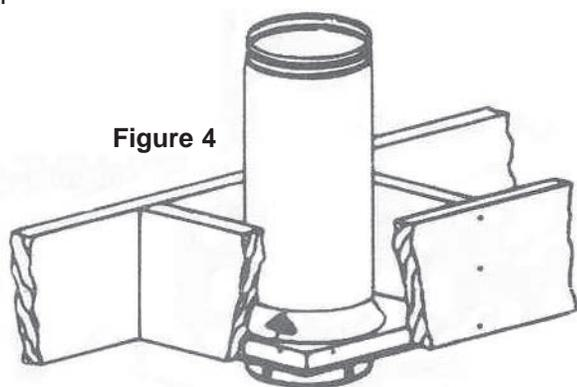

Figure 4
- Place a supporting collar in the groove at the bottom end of any standard pipe just above the locking ring. Tighten the screw so that the collar is firmly clamped into position in the groove. The pipe is now assembled properly to fit into the support plate. (See Figure 4.) This pipe assembly will rest on the upper side of the support plate and provide the **REQUIRED 1-INCH CLEARANCE FROM COMBUSTIBLES**. The pipe will protrude below the support for connecting additional pipe from the vent to the appliance. A maximum of 60 feet of vent can be installed above the support before resupport is required.